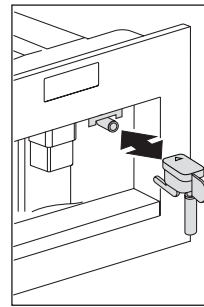

Fig. 13
- ▶ Make sure the water spout is in place and attached to the nozzle (Fig. 13).